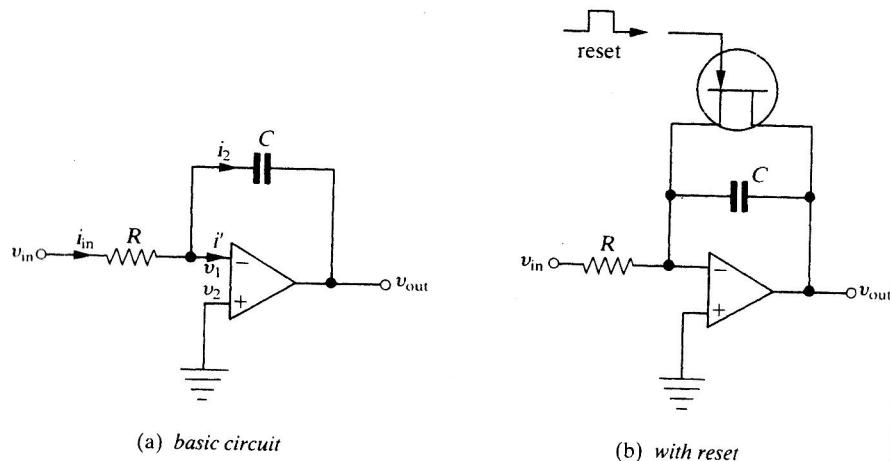

FIGURE 10.19 Op amp integrator.
An op amp can be made to integrate by using the circuit of Fig. 10.19. Applying the KCL at the inverting terminal of the op amp yields
1. At the start of the integration we want the output to be zero, which requires that we start with no charge on the capacitor. Thus, there must be a shorting switch across  $C$  that should be opened when the integration is to start (i.e., when the input signal is applied). An FET switch can be used, as shown in Fig. 10.19(b). The signal to the gate that turns on the FET and shorts out  $C$  is called the *reset* signal. The time required to reset the integrator is about  $R'C$ , where  $R'$  is the "on" resistance of the FET channel, because  $C$  discharges through the FET.